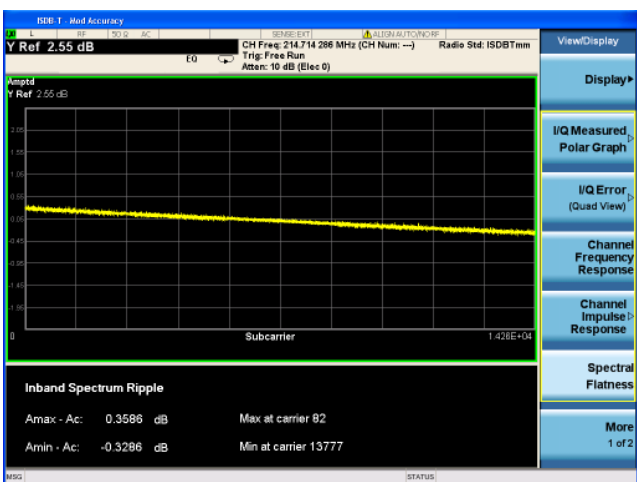

Figure 24. Spectrum flatness view for ISDB-Tmm signals
View the spectral flatness results (Figure 24)	[View/Display] {Spectral Flatness}
- **Spectrum flatness view** (Figure 24): This two-window view shows the spectrum ripples in the transmission bandwidth.